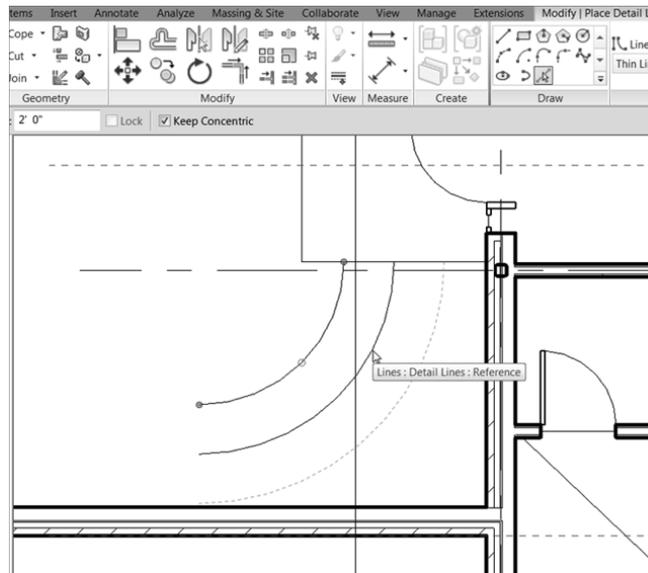

FIGURE 10.37: Adding two more arcs based on the centerline of the first
10. On the Options bar, add an increment of $2'-0''$ (600 mm) to the Offset field (see Figure 10.37).
11. Offset the center arc to the right and then to the left, forming a $4'-0''$ (1200 mm) overall winder, as shown in Figure 10.37.